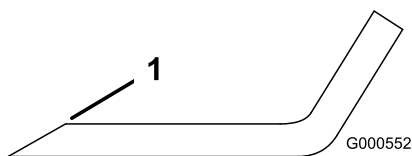

Figure 75
1. Use a file to sharpen the cutting edge at both ends of the blade (Figure 75).
Note: If the blade is not balanced, file some metal off the end of the sail area only (Figure 75).